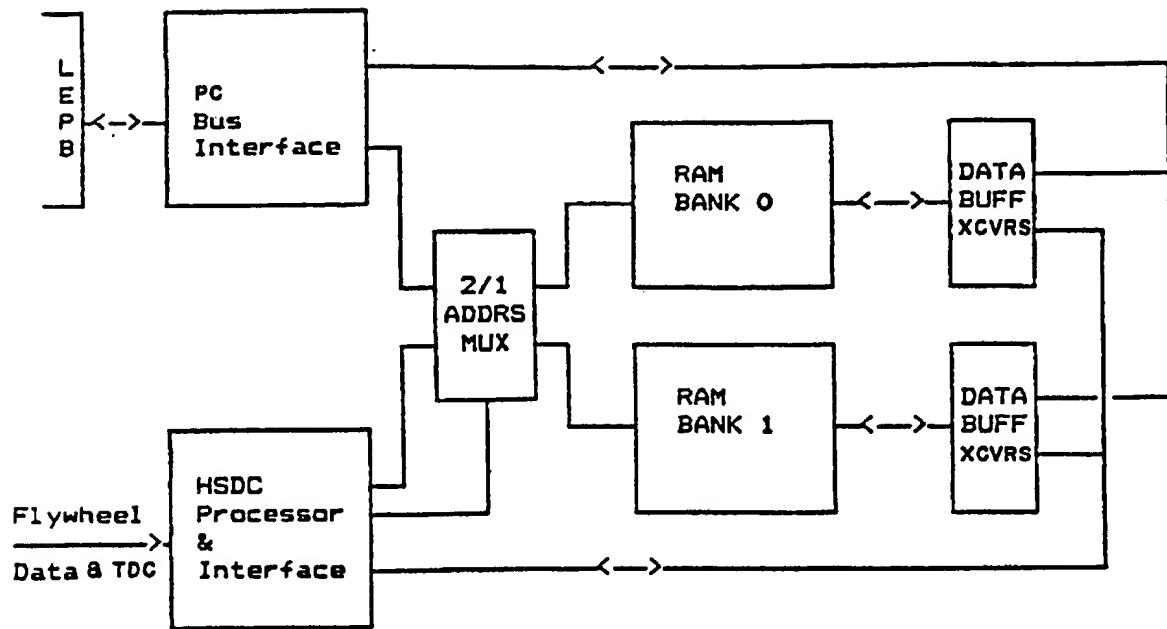
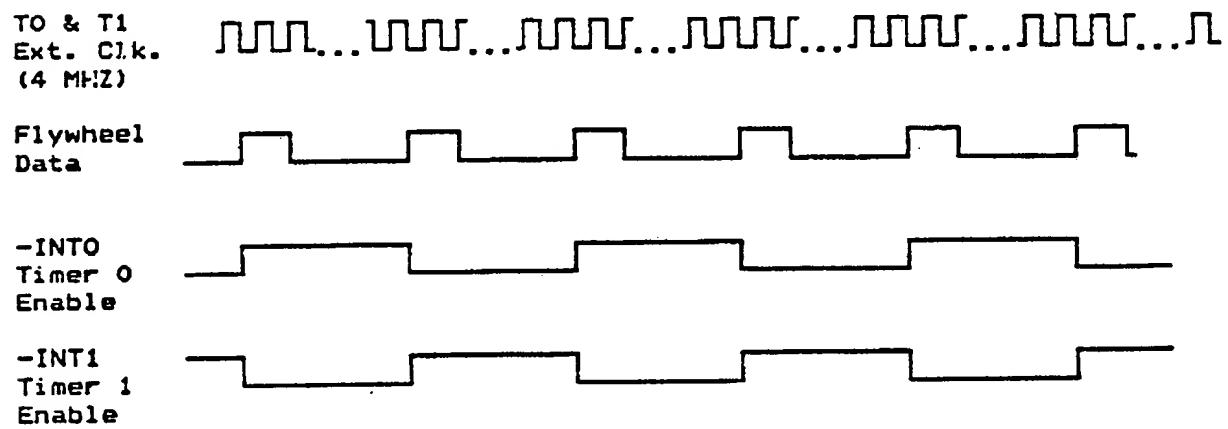
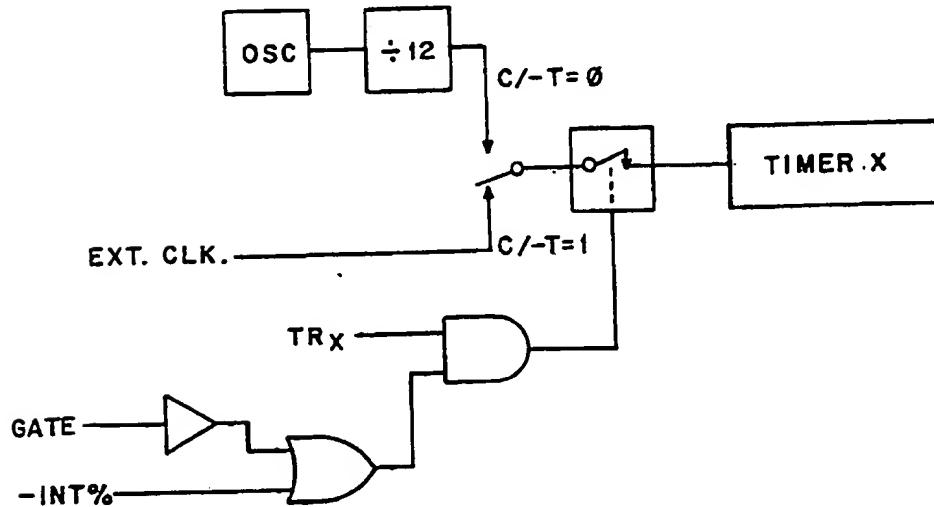

FIG. 1
FIG. 2
FIG. 3
- This article describes a high speed data card (HSDC) for an automotive engine analyzer which measures the period between adjacent flywheel teeth pulses and saves the result in a memory buffer. It serves as an interface between the flywheel gear and a personal computer (PC). ***** SEE ORIGINAL DOCUMENT ***** The basic function of the HSDC is to measure the period between adjacent flywheel teeth pulses and save the result in a memory buffer. For a flywheel gear with 150 teeth the HSDC saves 150 words (16 bits each) every crankshaft revolution. The engine analyzer main processor reads this data every crankshaft revolution and saves it in its main memory. The data is later correlated and processed with other engine data for engine performance analysis. The HSDC is an integral part of the engine analyzer and consists of an HSDC processor and interface, a dual random-access memory (RAM) buffer and PC bus interface. Fig. 1 is a high level block diagram of the HSDC. The HSDC processor is based on Intel's* 8052 single chip microcontroller. The 8052 has all the following features onboard: (a) 8 bit CPU (b) 8K bytes of ROM (c) 256 bytes of RAM (d) 32 I/O lines (e) Three 16-bit timers/counters (f) Five source interrupt structure with two priority levels (g) Full duplex serial port (h) Boolean processor The HSDC processor performs the flywheel data measurement using two 16-bit internal counters. In addition, it arbitrates access control of the dual memory buffer between it and the main processor. Fig. 1 shows the connectivity of the 8052 to the flywheel signal for flywheel data measurements. The flywheel signal is divided by 2. The ***** SEE ORIGINAL DOCUMENT ***** output signal and its complement feed the external interrupt inputs (INT0 and INT1) of the 8052. Fig. 2 shows the flywheel signal with the interrupt inputs. The 8052 is configured in a special mode where -INTX (INT0 and INT1) inputs enable TIMER X (timer0 and timer1). Fig. 3 depicts the circuit within the 8052 gating the timers with the external interrupts. The timers are set up to operate as counters (bit C/-T =1); allowing it to count the external input clock (Ext Clk). Timer0 and timer1 operate on a 4 MHz external clock. The TRX and gate bits are set in software, enabling the counters when the corresponding interrupt input is high. With the interrupts programmed in the edge-triggered (high to low transition) mode, the 8052 is prompted to save the value of the corresponding counter in memory when the interrupt line is active. That is, during INT0, TIMER 0 value is saved in memory before clearing the timer and getting it ready for the next cycle. For example, consider a flywheel gear with 150 teeth and running at 2000 rpm. The value in the timer on interrupt will be: (4000000 counts/sec) / (2000 rev/min x150 teeth/rev x 1min/60 sec.) = 800 The top dead center (TDC) signal is also an interrupt input to the 8052. On every TDC signal the 8052 switches the memory access control signal between RAM bank0 and bank1. For example, if the 8052 has access to bank1 and the main processor has access to bank0, on the next TDC this access control is switched. The 8052 performs other tasks including Power-On Self Test (POST), handshaking with the main processor for configuration parameters and error
control, and background diagnostics. Fig. 4 is a functional flow chart illustrating the major tasks of the HSDC processor. The dual RAM buffer consists of bank0 and bank1. Each bank consists of two 8K x 9 static memory modules. This arrangement allows for either memory transfers with the main processor or 8-bit transfers with the 8052. The ninth bit is used as a parity bit for data integrity. The transceivers (XCVRS) shown in Fig. 1 perform the added function of parity generation on memory writes and parity checking on memory reads. In case of parity error, the parity logic block latches the error and informs the corresponding processor which will later reset the error latch. Access to a memory bank is multiplexed between the 8052 and the main processor using address multiplexers. The multiplexing control is generated by the 8052 and toggled every TDC. The PC interface consists of buffers, address latches, and address decode and read/write logic specific to the Micro Channel** bus. * Trademark of Intel Corp. ** Trademark of IBM Corp.